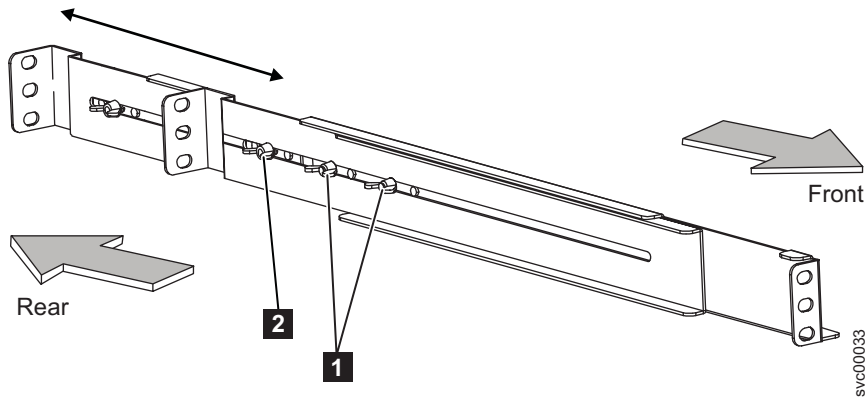

Figure 327. Adjusting the rail depth on the 2145 UPS-1U
4. Loosen the assembly wing nuts (**1** in Figure 327 on page 317) on both rail assemblies and adjust the rail size to the depth of your rack. After you adjust the depth, tighten the assembly wing nuts as much as possible while still allowing some movement.